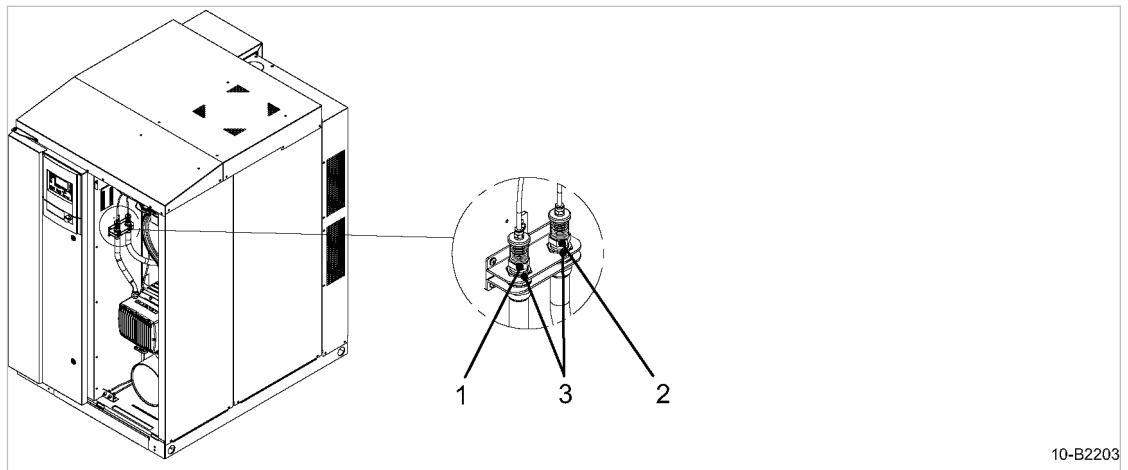

Fig. 30 Replenishing lubricating oil
2. Use the wrench to slowly open the oil inlets of the gear and drive side, items ① and ② in Fig. 30.
3. Screw off caps ④ of gear and drive side, secure against reclosing and ensure that the oil can flow freely.
4. Open oil drain taps ③ and let oil drain out.